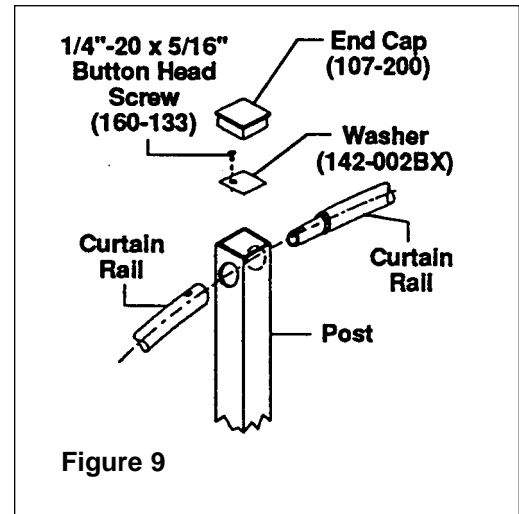

Figure 9
NOTE: The same number of curtain hooks goes on each rail as shown in Figure 9.
2. Assemble curtain rails to posts as shown in Figure 9.